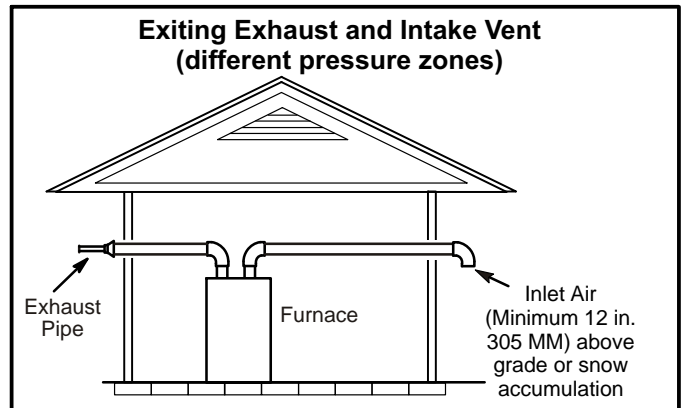
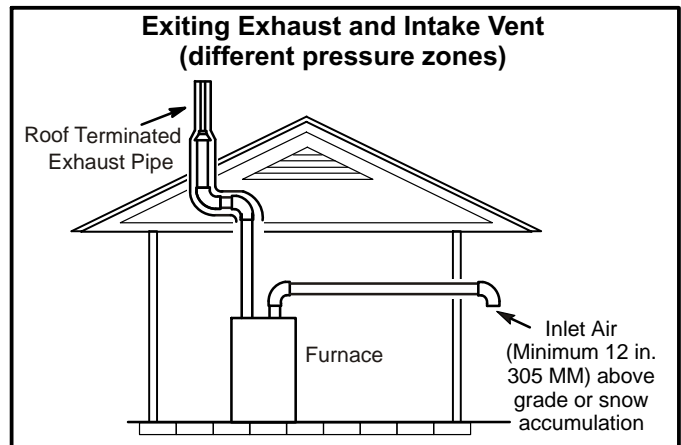

FIGURE 33
FIGURE 34
- 1 - Intake and exhaust terminations are not required to be in the same pressure zone. You may exit the intake on one side of the structure and the exhaust on another side (figure 33). You may exit the exhaust out the roof and the intake out the side of the structure (figure 34).